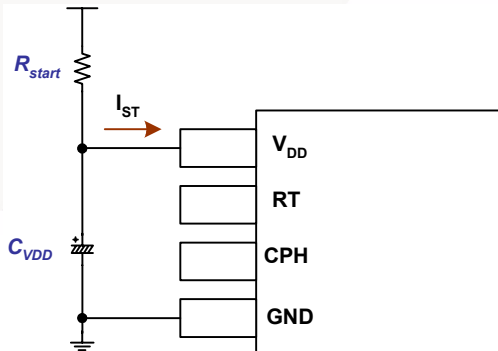

Figure 30. Equivalent Circuit During Start
Figure 30 shows the equivalent circuit for estimating  $t_{start}$ . From the circuit analysis,  $V_{DD}$  variation versus time is given by:
- Refer to the Design Guide start-up circuit, in Figure 30. Due to reducing power loss on the start-up resistor (R1) for high-efficiency systems, it is possible to use a higher resistor value than recommended. In this case, the IC doesn't reliably keep SD (shutdown) state for protection. Carefully select the start-up resistor (R1) or use the recommended value (470k) to sufficiently supply shutdown current ( $I_{SD}$ ) and start-up current ( $I_{ST}$ ).